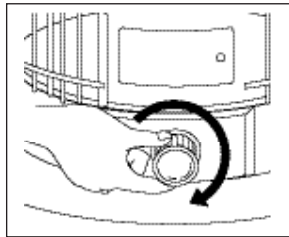

Fig.12
- i 'Turn the wick adjuster knob clockwise until the wick has been raised to its maximum height.(Fig.12)